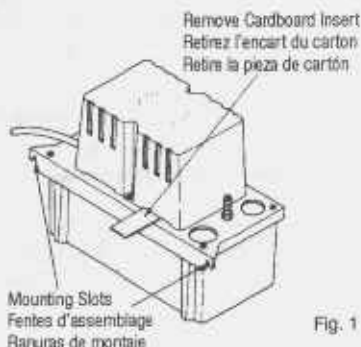

Fig. 1
- Carefully unpack the pump. Remove the cardboard packing from the motor cover air slots. Carefully slide the packing away from the pump. This packing is used to prevent switch movement during shipment (Fig. 1).